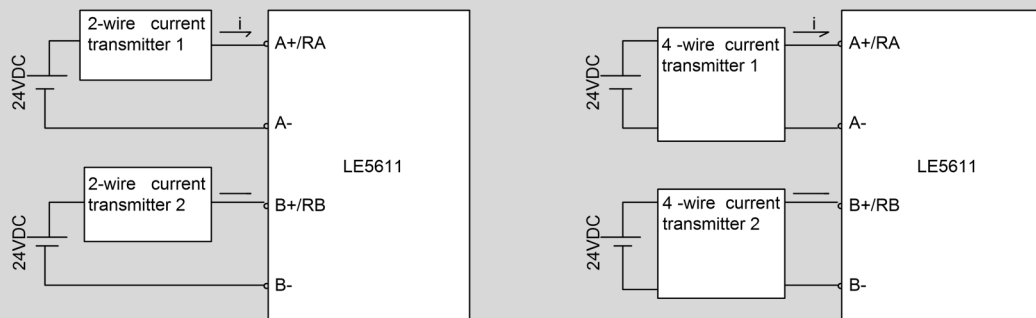

Figure 75 Wiring Diagram with 2-Wire
- 2-wire wiring and 4-wire wiring are as shown in Figure 75. The transmitter shall be supplied power through external power and also can choose 24VDC output of CPU module according to requirement of power capacity.